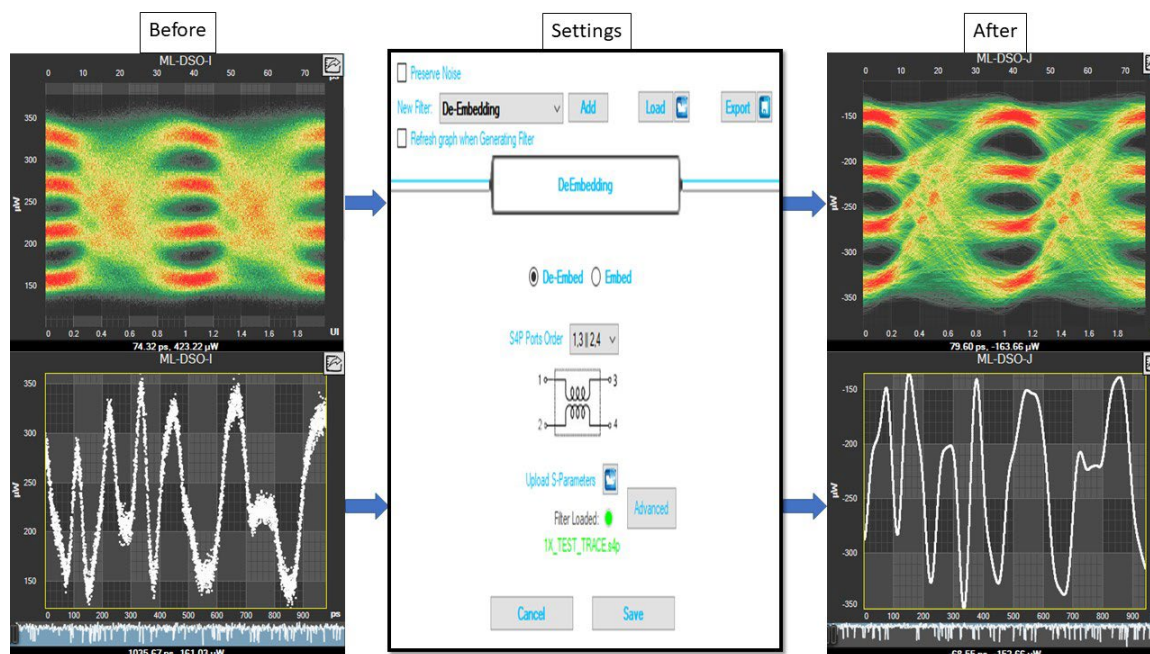

Figure 31: De-Embedding Filter
- **Pattern mode:** this mode works only if you are locked to a pattern. It shows the train of bits. An example is shown in Figure 31.